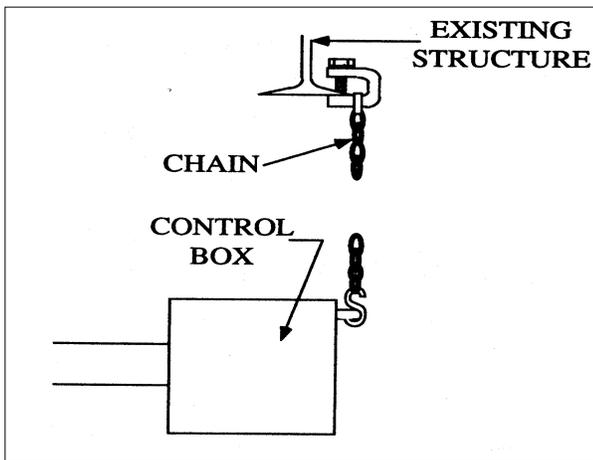

Figure 1-6
- Use of #1 double-loop chain is recommended for heater hanging (Accessory No. THCS) (see Figure 1-6). Close all “S” hooks to ensure maximum load carrying capacity. Accessory No. “BK” allows for preset mounting angle of 15°, 30°, or 45°.